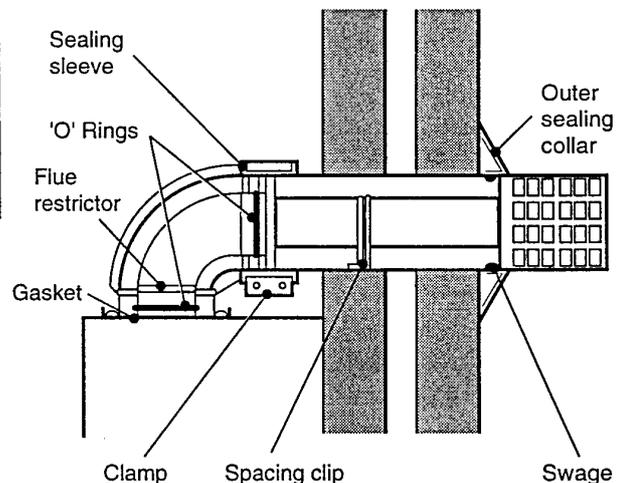

Fig. 11
Note: If the flue length is less than 1 m, fit the flue restrictor supplied into the inlet socket of the flue as shown in Fig. 11 - push the restrictor up into the socket as far as it will go.
2. If the flue length is less than 1.5 metres, fit the flue restrictor into the inlet socket of the flue as shown in Fig. 11 – push the restrictor up into the socket as far as it will go.